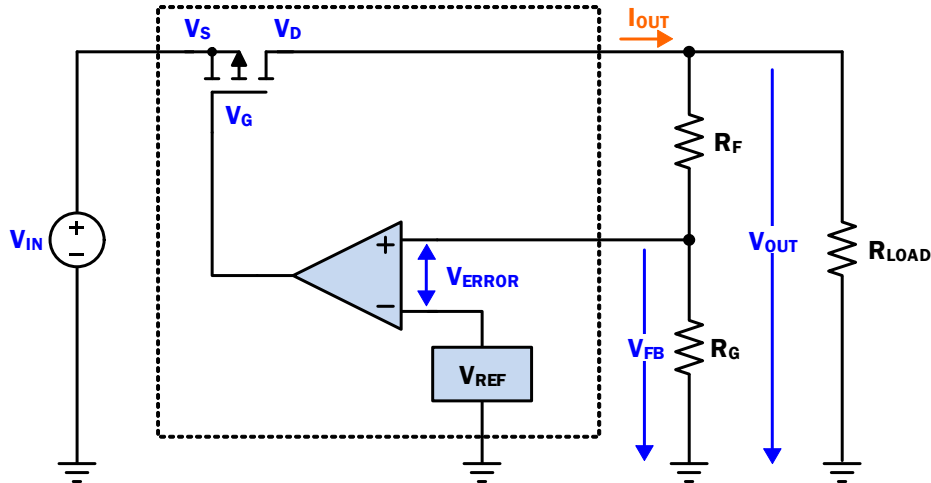

Figure 121. Simple PMOS LDO Regulator Block Diagram
Like the majority of LDOs with a PMOS pass transistor, the RAA214023 DC output voltage ( $V_{OUT}$ ) regulation can be modeled with a voltage reference ( $V_{REF}$ ), PMOS pass-transistor, error amplifier and feedback (FB) resistors as shown in Figure 121.